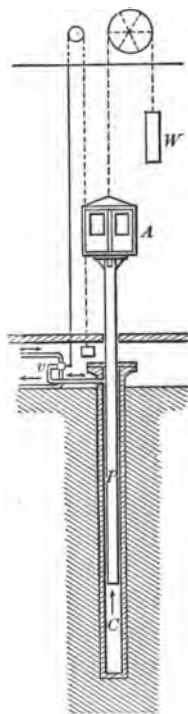

FIG. 49.—Hydraulic elevator.
**55. Hydraulic elevators.** Pascal's principle is also used in hydraulic elevators, which are commonly employed where heavy machinery is to be lifted. A simple form is shown in figure 49. At the bottom of the elevator well is a pit as deep as the building is high. In the pit is a cylinder ( $C$ ) and in this cylinder is a plunger ( $P$ ), to the top of which the elevator cage ( $A$ ) is firmly fastened. When water under pressure (often simply the pressure of the water mains) is admitted through the valve ( $v$ ) into the cylinder, the plunger rises and forces up the elevator. The weight of the elevator is partly counter-